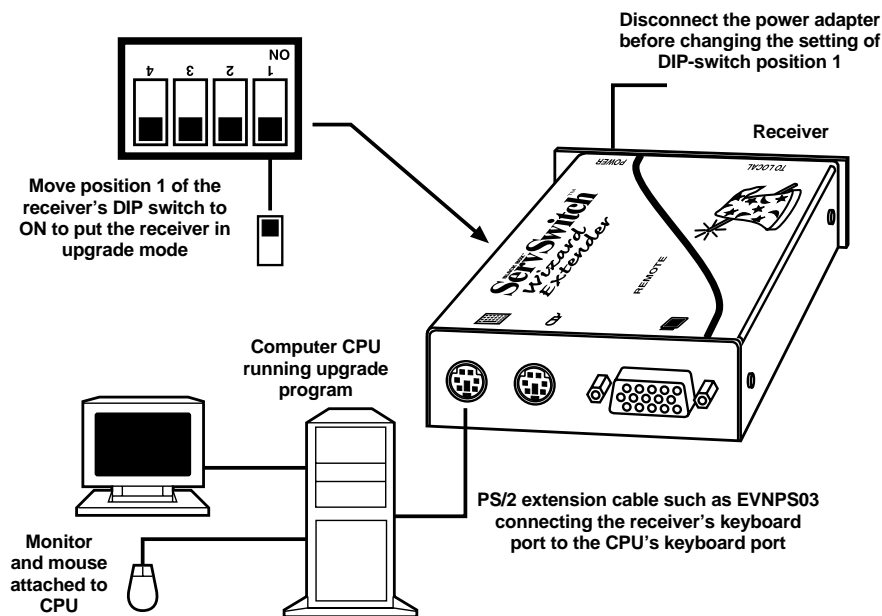

Figure 6-2. Upgrading the receiver.
12. Use standard PS/2 extension cable such as product code EVNPS03 to connect the receiver's keyboard port to the keyboard port of the computer that will be running the upgrade program, as shown in Figure 6-2. (This is correct—the upgrade procedure *reverses* the normal signal flow on the CPU's keyboard port.) Plug the monitor and mouse directly into their normal ports on the CPU.